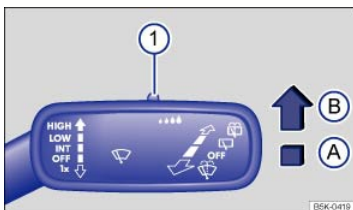

Fig. 95 Windshield wiper lever: Adjusting the rain sensor ① (if equipped).
The rain sensor's sensitivity can be adjusted manually ⇒ Fig. 95① ⇒ ▲.